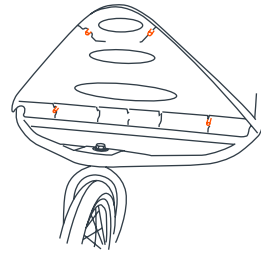

Fig. 7a
- 7) • Examine the bottom of the front fender. You will notice four 1/4 inch diameter plastic tubes protruding from the bottom (Fig. 7a).